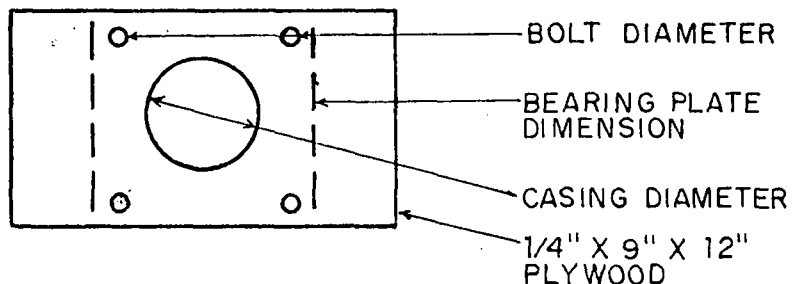

FIGURE 2.5
- b. Drill the holes as shown in Fig. 2.5.